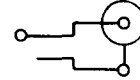

Fig. 27—374A or B Plug
- (a) **374A:** The 374A plug (Fig. 27) is designed for solderless shield connection to a 724 cable by
- (b) **374B:** The 374B plug (Fig. 27) is designed for solderless shield connection to a 728A cable. The 374B plug is used in the J68402E Broadband Transmitter, the J68402F Broadband Receiver, and J68403 Microwave Carrier Supply of the TH Radio System.